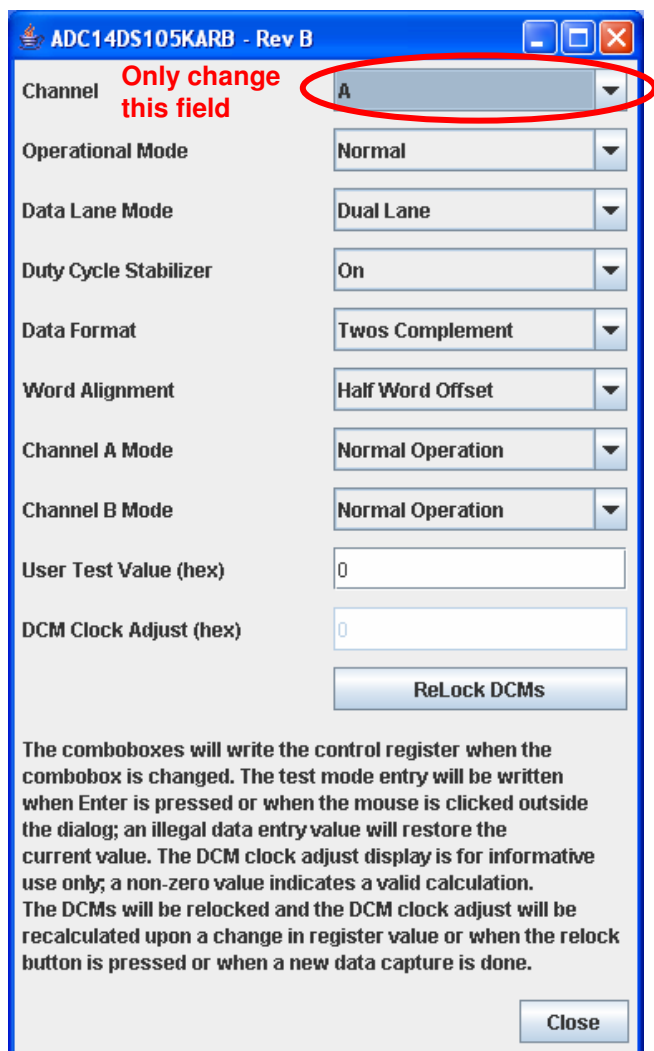

Figure 3. SPI Software Control Panel
2. Connect the WaveVision 5.1 Digital Interface Board to your PC through the supplied USB cable and apply power to the WaveVision 5.1 board through the +12V AC-DC power adapter included in the WaveVision 5.1 kit. The connection diagram is shown in Figure 3.
When the ADC14DS105KARB board is connected to the WaveVision 5.1 board, the SPI software control panel shown in Figure 3 will automatically appear. This window should be used to set the modes of the ADC14DS105 when the SPI is enabled. Please ensure that the fields in the window correspond to Figure 3.
4. Connect a 5.0V dual power supply (+/- 5.0V) capable of supplying up to 1A to the green power connector which is located along the bottom edge of the ADC14DS105KARB board. This is shown in Figure 3. Ensure that the polarity of the wires going to the green power connector match the “+5V”, “-5V” and “GND” labels on the evaluation board. Turn on the +/- 5V supply.